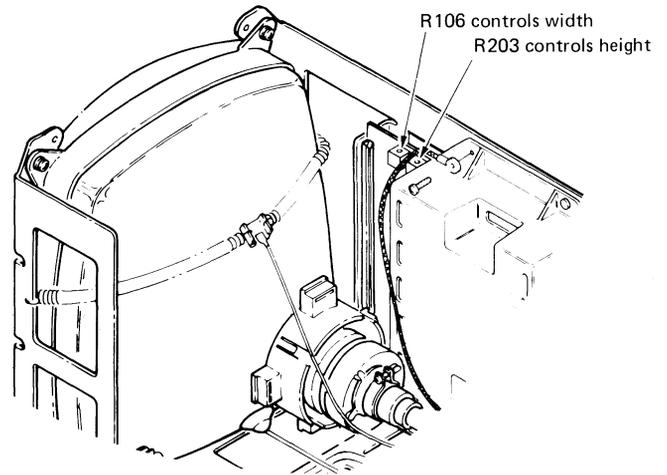

Figure 13 - Image Adjustment Screws
6. Turn the adjustment screws on R106 and R203 fully counterclockwise to make the image on the screen the minimum size (see Figure 13).